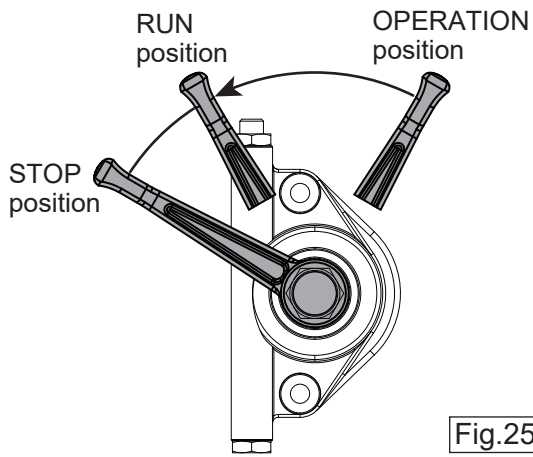

Fig.25
- Return the throttle lever to RUN position. (Fig.25)